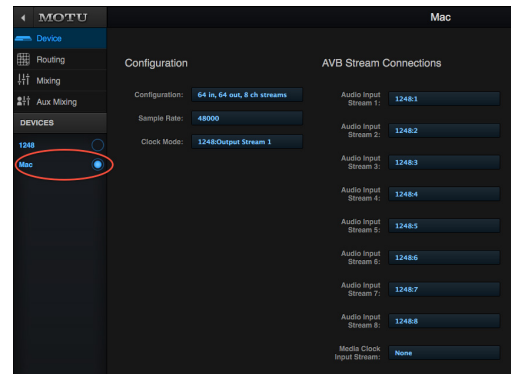

Figure 5-7: Accessing the AVB settings for the Mac in the MOTU web app.
**3** From the Configuration menu (Figure 5-7), choose the channel mode for the Mac that best fits your workflow.
**4** From the *Sample Rate* menu (Figure 5-7), choose the desired sample rate. Currently, the Mac only supports 48, 96 and 192 kHz sample rates.